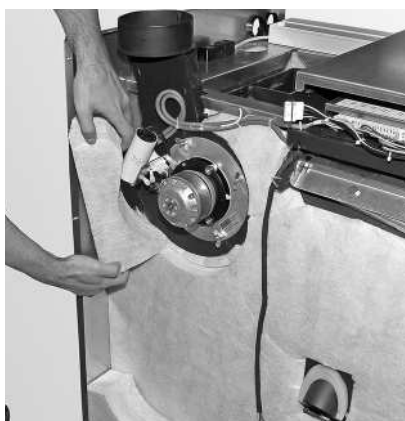

Fig. 30 Remove insulation around the induced draught fan
- ▶ Remove insulation from all around the induced draught fan – Fig. 30.